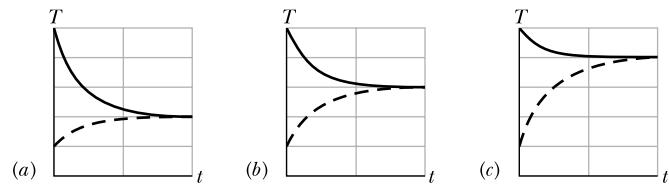

Figure 18.6 Question 11.
- 11** A hot object is dropped into a thermally insulated container of water, and the object and water are then allowed to come to thermal equilibrium. The experiment is repeated twice, with different hot objects. All three objects have the same mass and initial temperature, and the mass and initial temperature of the water are the same in the three experiments. For each of the experiments, Fig. 18.6 gives graphs of the temperatures  $T$  of the object and the water versus time  $t$ . Rank the graphs according to the specific heats of the objects, greatest first.